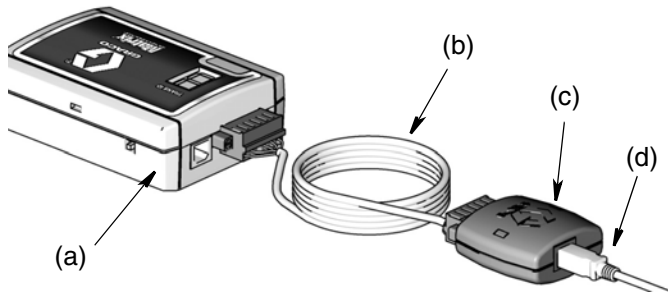

FIG. 8
RS422 Converter (c) (FIG. 8) - for wiring distances up to 4000 ft (1219 m).
- Connect components: Transceiver (a), RS422 Cable (b), RS422 Converter (c) and USB Cable (d) as shown in FIG. 8.